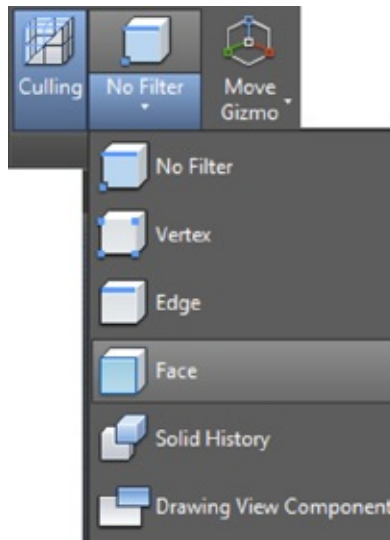

FIGURE 23.9 Select the Face filter.
2. In the Selection panel, select Face from the Filter flyout (see Figure 23.9).